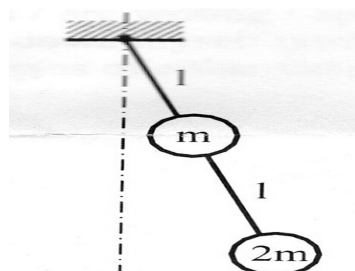

Fig.2, Q. No. 7 (b)
- b. Determine the natural frequencies and the corresponding mode shapes of the double pendulum shown in Fig. 2. Q. No. 7(b).